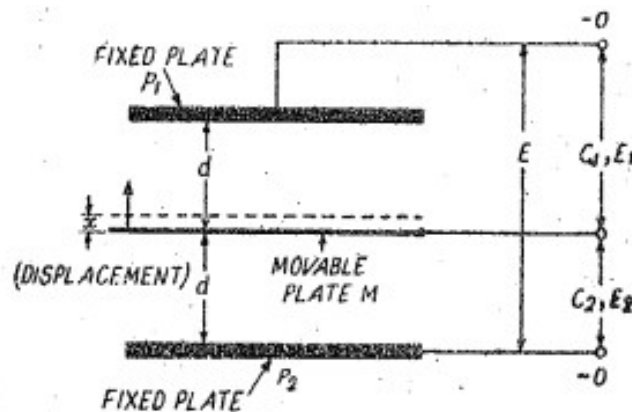

Figure Q1b
b) Derive the sensitivity of a capacitive sensor of Figure Q1b